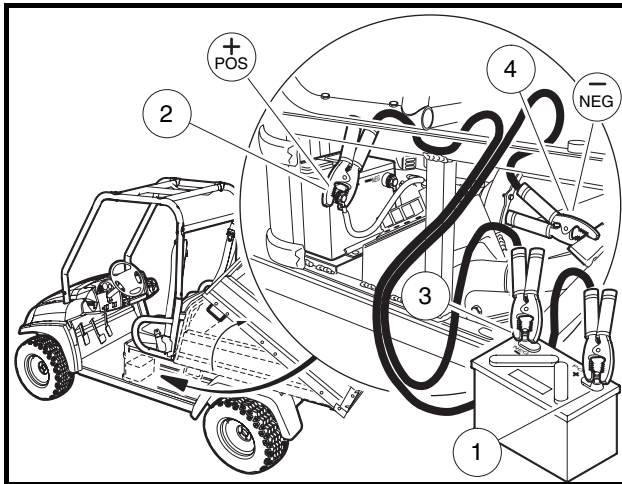

Figure 40 Jump Starting
4. Locate the vehicle battery on the driver’s side of the vehicle under the cargo bed (**Figure 40**).
5. Connect the end of the first cable (1) to the positive (+) terminal of the booster battery. Connect the other end of the same cable (2) to the positive terminal of the vehicle battery. **See DANGER “Battery – Explosive gases!...” on page 8.**
6. Connect the end of the second cable (3) to the negative (–) terminal of the booster battery. Connect the other end of the same cable (4) to the battery frame ground.
8. After the engine has started, remove the frame ground (–) cable (4) first. Remove the cable from the positive terminal (2). Then remove the cables from the booster battery. **See following CAUTION.**